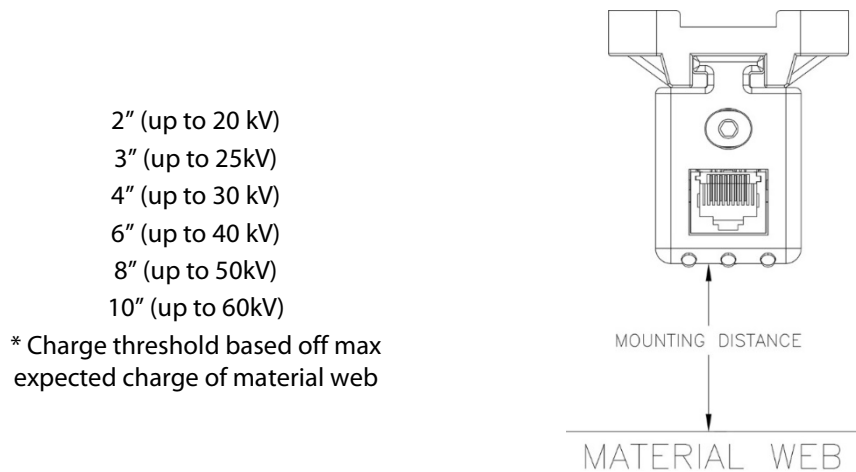

Figure 2. Modular Sensor Mounting
- Choose an appropriate mounting location for the sensor. As a note, the sensor must be mounted at a distance that adheres to the available mounting distances available in the IQ Power Control Station. (See Figure 2)